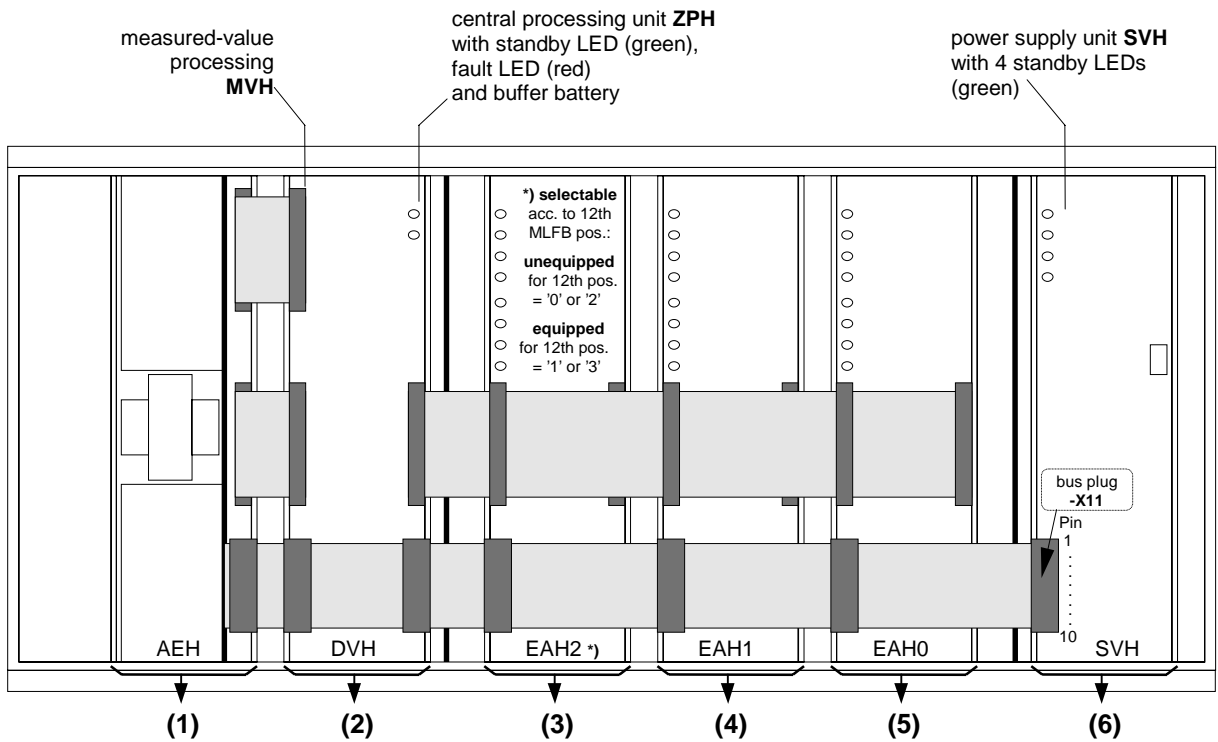

Figure 1: Front view of 7SA513 when front door is open (simplified),
- EAH extension (binary input/output modules; pos. (3), (4), (5) in figure 1): the MLFB code, which pertains to the ordered device, has been software-implemented by the producer and will appear in the display. The 12th MLFB position denotes the EAH extension (e.g. 2 EAH or 3 EAH modules). Up to version V2.12 the actual number of extant EAH modules have not been verified by the software. In versions V2.2*/V3.**, the number of the plugged-in EAH modules are compared to the number, recorded in the implemented MLFB code. In case of deviation, the device will go into the monitor subroutine (malfunction of device).
Corrective measures: Number of EAH modules (i.e. excluding/including module EAH2 in pos. (3) as in figure 1) must correspond to the number shown in the implemented MLFB code. Before carrying out a firmware update, write down the MLFB code (address 0 or 0000). Check and, if necessary, modify the EAH configuration of the device.
21. Insert the DVH module into the housing; ensure that the module is firmly pushed in. Carefully re-connect the ribbon cables, which connect the DVH-module (see fig. 1, pos (2)), with the other modules. Be careful, that no terminal pins suffer injury (bending). Then re-connect the ribbon cables from the front panel; take care for correct polarity:
- 27.2 Remove the bus plug **-X11** from the power supply module **SVH** (see fig. 1).
- 27.3 Connect a digital-voltmeter to pin 2 (positive pole +5V) and pin 5 (negative pole M5V) of the plug connector X11 (SVH-module). Pin-location see fig. 1.
- 27.15 Replace the bus plug **-X11** to the plug connector X11 of the power supply module **SVH** (see fig. 1).